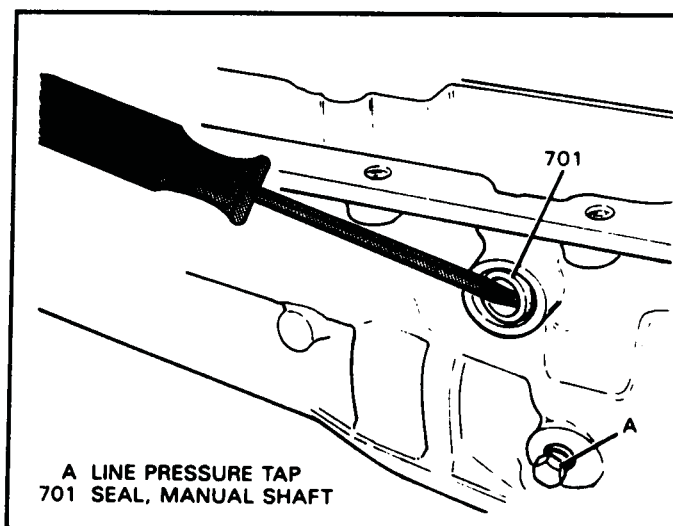

Figure 64
19. Remove the manual shaft seal from the case, as shown in Figure 64, using care not to damage the seal bore in the case.